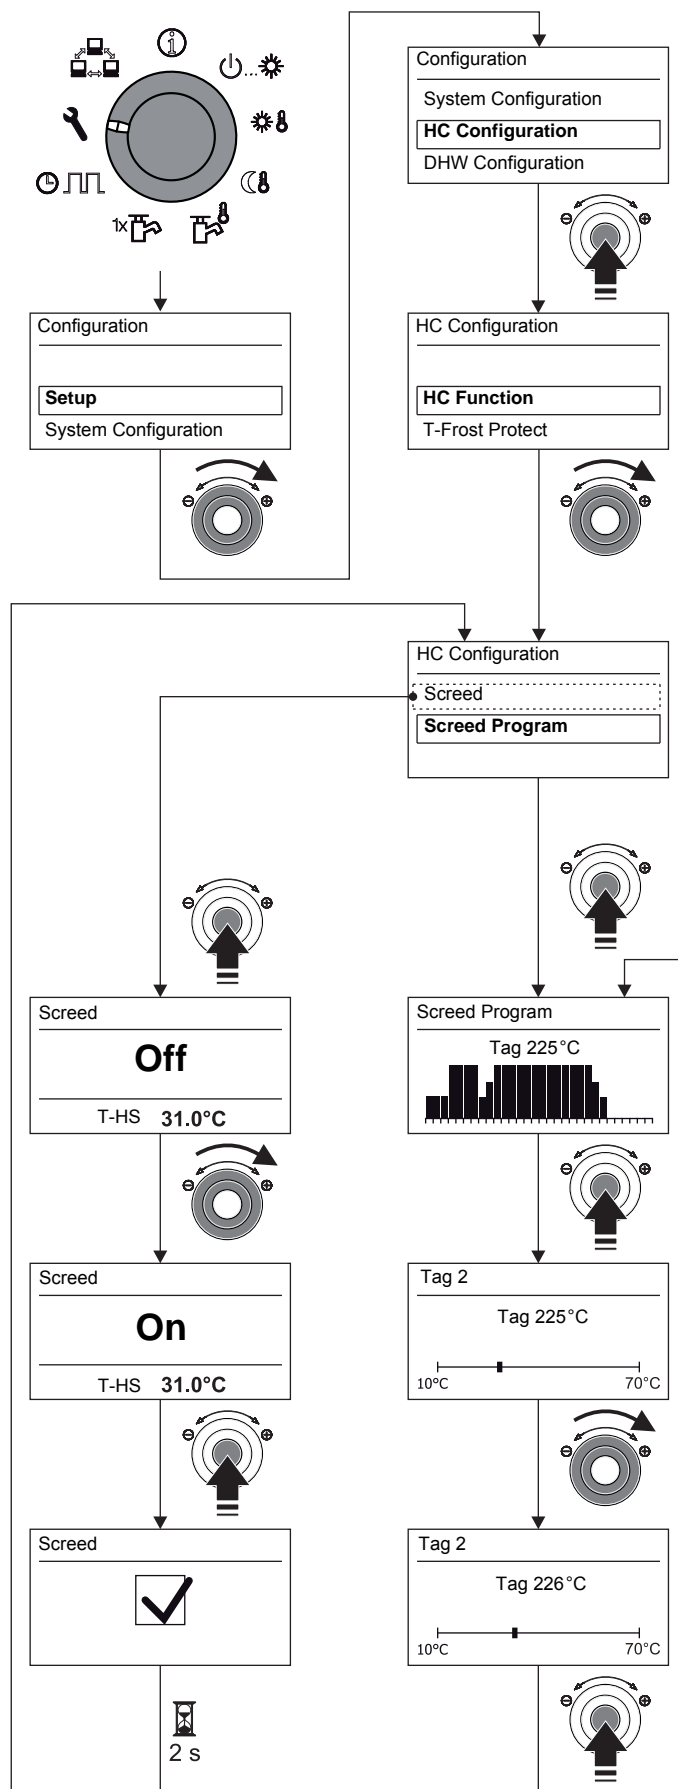

Fig. 3-20 Screed Program Setting
- Check the Screed Program settings and adjust to the stipulations provided for the screed by the manufacturer, if necessary (see fig. 3-20).
- Using the rotary switch, set the parameter for the function to "On" and confirm by pressing it quickly (see fig. 3-20).